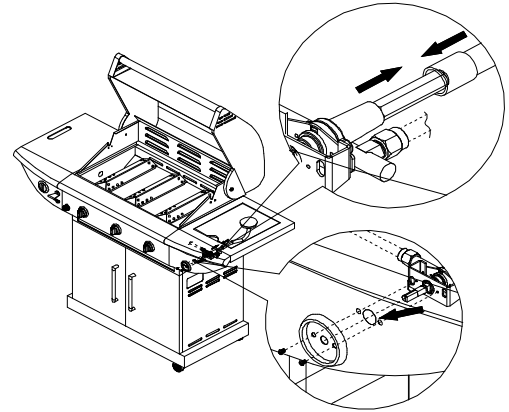

Figure 13
3. Place side burner control knob bezel over side burner valve control stem. Secure bezel to control and valve with 2 screws removed in step 2. Push control knob onto valve control stem. See Figure 13.